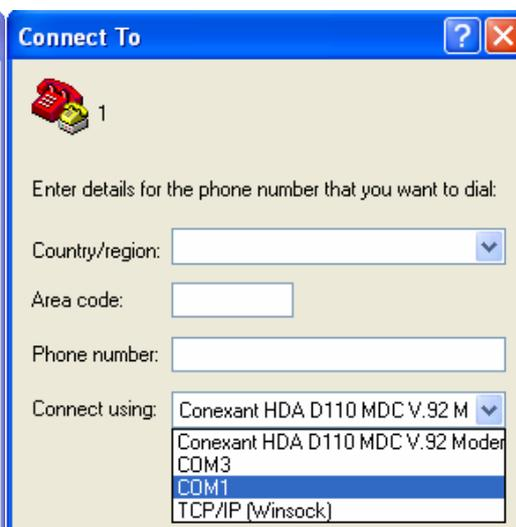
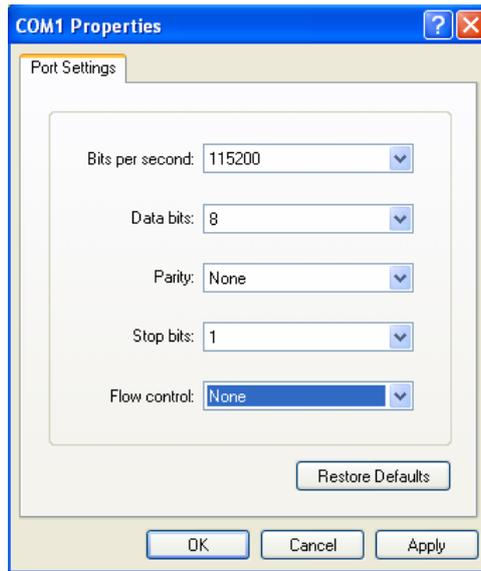

Fig 4
Fig 5
- 1) Input the name “hikvision”. And do the step 1 again. Then enter into fig 4. select COM1 and click “OK” to enter into fig 5.